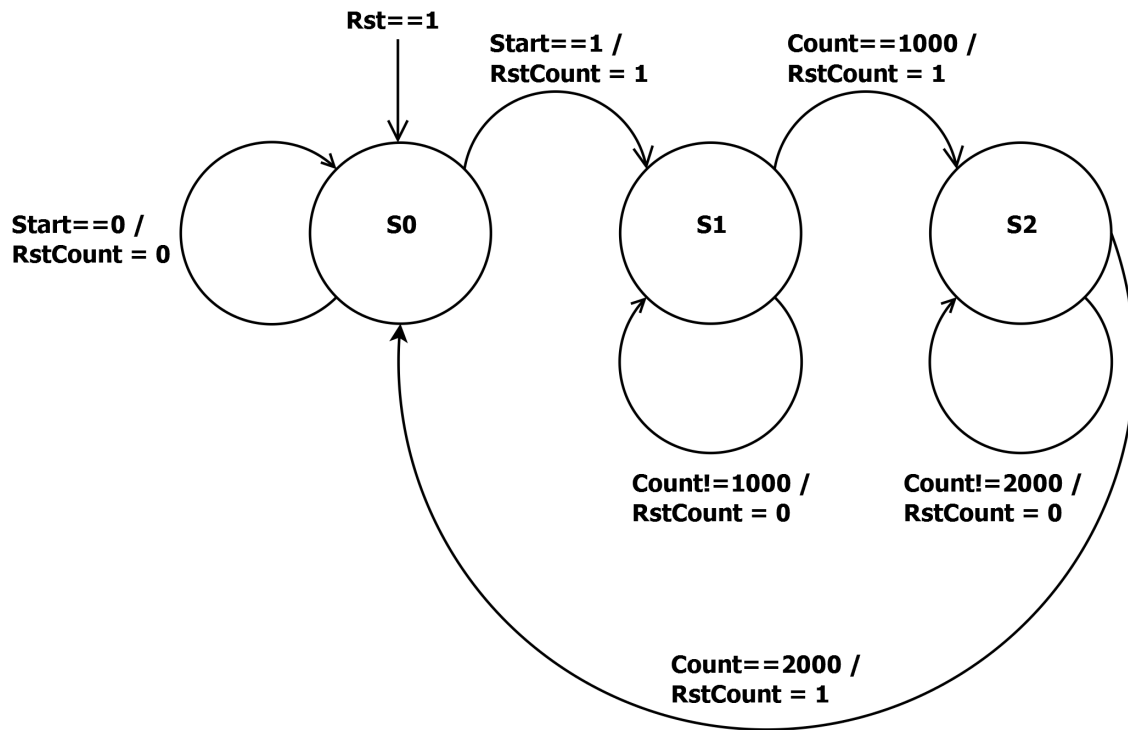
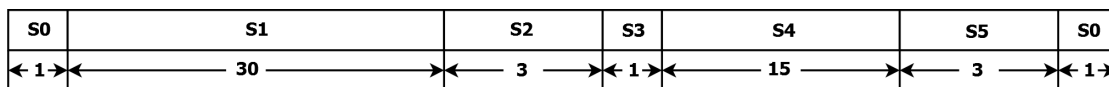

Figure 3: Counter Controlled Paused Transitions
Figure 6: Time Line in Seconds of Initial FSM design
In lab, you will need to implement pauses between state transitions in order to mimic the operation of a real traffic light. As you may have guessed, counters can be used to generate precise timing delays or pauses. Figure 3 depicts this concept with a state machine that after *Start* is asserted, waits in state *S1* for 1000 clock cycles and then in state *S2* for 2000 cycles. To accomplish this, the output signal from the state machine, *RstCount*, resets the counter, and in turn, the output of the counter (and input to the state machine), *Count*, controls the transitions from states *S1* and *S2*.
The brain of the traffic light controller is the FSM. For the the initial design, *Count* and *Rst* constitute the only input to the FSM. The output of the FSM includes the *highwaySignal* and *farmSignal* previously mentioned as well as *RstCount*, the counter reset. The operation of the FSM can be described by Table 1 and the time line in Figure 6. We can also describe this behavior using a state diagram similar to that seen in Figure 3. One of the pre-lab exercises will require you to do just that.
3. Given Table 1 and Figure 6, create a state diagram for the traffic light controller FSM. Be sure to include the appropriate input and output labels. Assume $S0$ is the reset state.